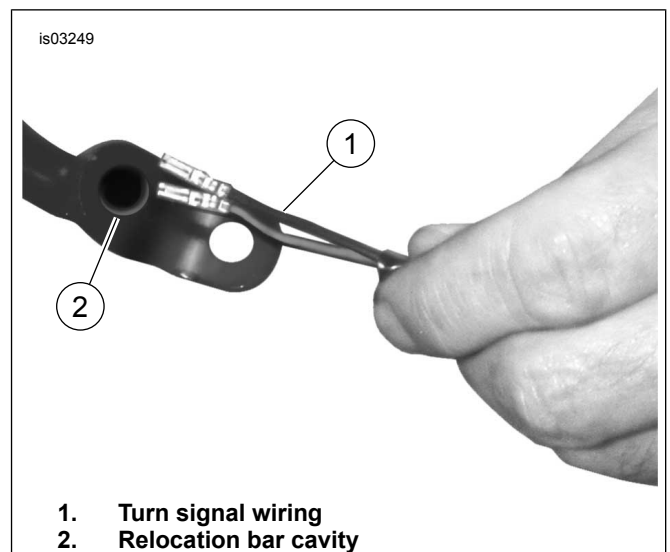

Figure 6. Route Turn Signal Wiring
1. See Figure 6. Route lamp wiring through turn signal relocation bracket.